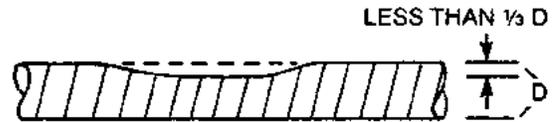

Figure 5-1 – Repair Unnecessary. No Significant Damage to the Tubing Due to Impact or Crushing
1. No repairs or replacement of the tubing is necessary if the tubing is only slightly dented due to impact or crushing as indicated in Figure 5-1.